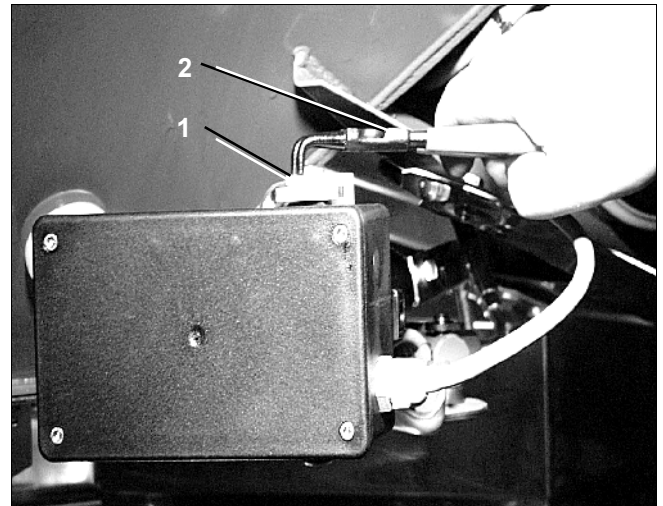

Fig. 101
- Remove both circlips (Fig. 101/1) by using circlip pliers. (Fig. 101/2).